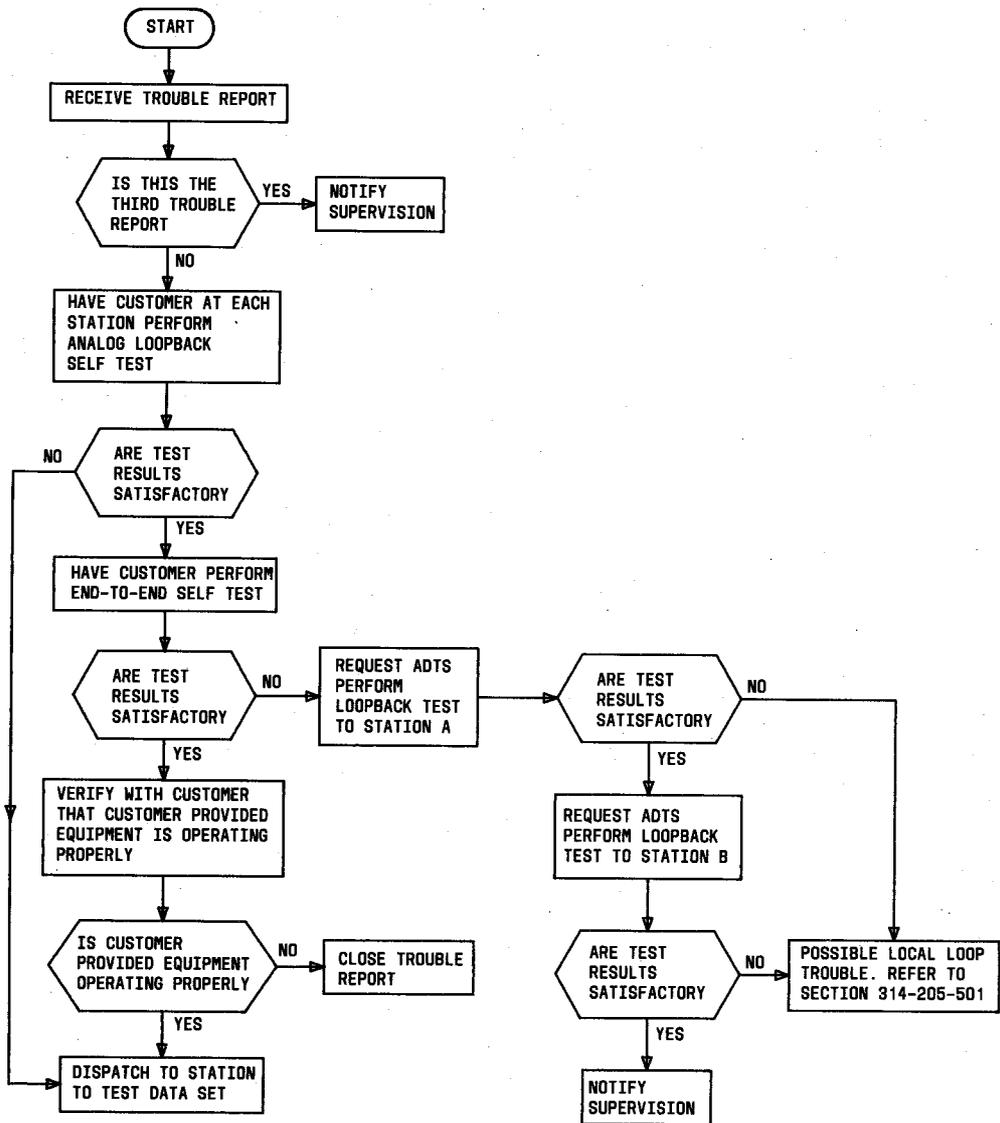

Fig. 2—Clearing Trouble Report
3.02 When a trouble report is received, a test center or ADTS is responsible for isolating the trouble to the data station or the transmission facility. The procedure for doing this is shown in Fig. 2.